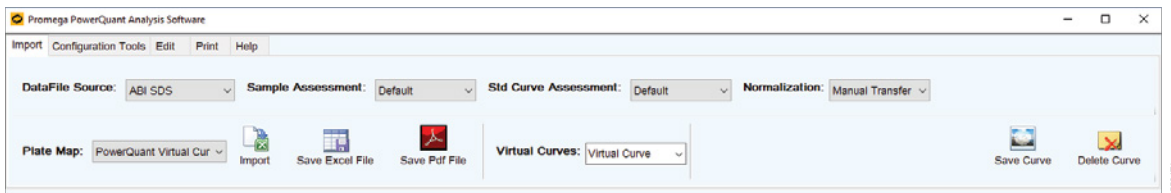

Figure 92. Menu options for a virtual standard curve on the 'Import' tab.
1. Use the drop-down menus to make the following selections: data file source; sample assessment, standard curve assessment and normalization settings; and plate map (Figure 92). See Section 9.G for information about settings and Section 9.H for information about plate maps.